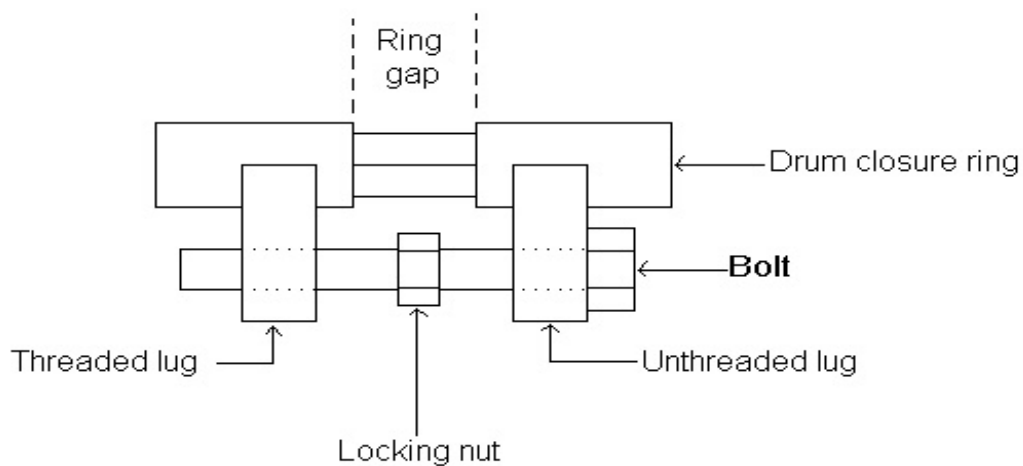

Figure 1 — Installing Bolt and Locking Nut into Bolt Closure Ring
- 8.1.13 Install the bolt and locking nut into the bolt closure ring. The bolt goes through the unthreaded lug of the closure ring and through the threaded lug, with the locking nut between the two lugs. See Figure 1 below.
- 8.1.15 Tighten the bolt to 25 ft-lb. of torque. (Check the torque setting with a calibrated torque wrench.) The gap between the ring ends should not be more than 1 inch. See Figure 1. The ring ends **must not** touch. If the ring ends touch 25 ft-lb. of torque, set the drum aside and contact your Waste Coordinator.